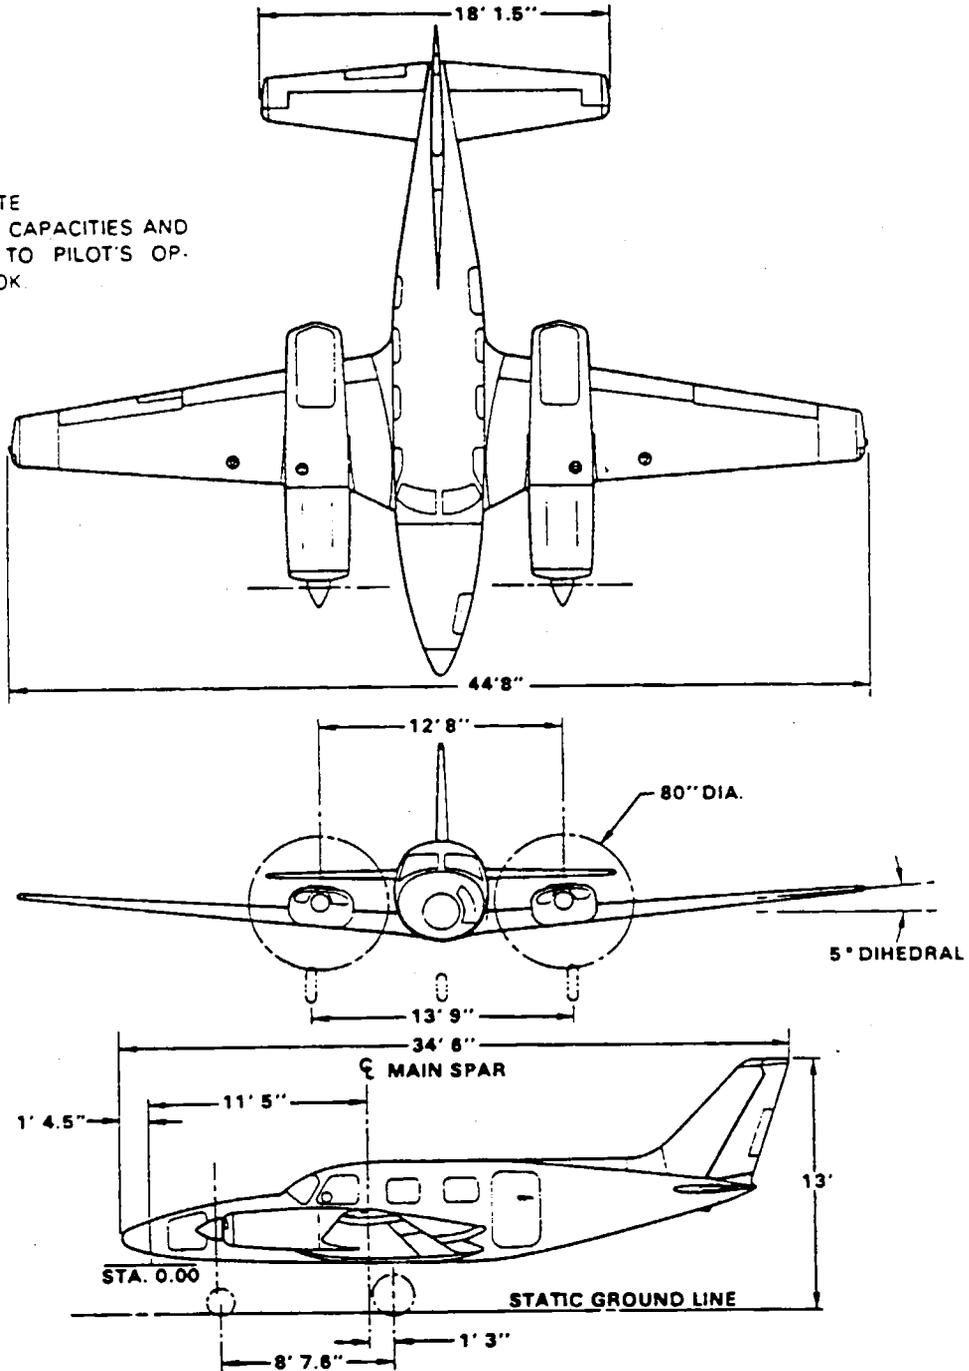

Figure 6-1. Dimensions
**DIMENSIONS AND AREAS.** (Refer to Figure 6-1).
The principal airplane dimensions are shown in Figure 6-1 and listed in Chart 601. The serial number plate for the airplane is located near the tail skid. The MAA plate is located under the lower front corner of the entrance door. The engine number plates are located on the right side of the oil sump.